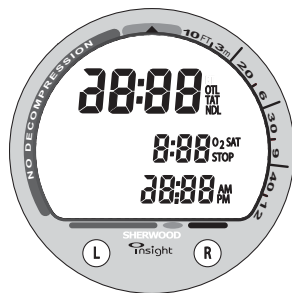

Fig. 8 - Time Displays
The largest display is the **Main Time** display (Fig. 8 - top row of digits). Indicated are theoretical No Decompression Limit (NDL), Oxygen Tolerance Limit (OTL), Elapsed Dive Time (BT), Total Ascent Time (TAT), or Surface Time with the Wave symbol below it, depending on the operating mode that the Insight is in.
A second Time display (Fig. 8 - middle row of digits) indicates Decompression Stop Time required at the stop depth indicated, or Time to Desaturate after a dive, depending on the operating mode that the unit is in.
The third Time display (Fig. 8 - bottom row of digits) indicates Time of Day, or Time to Fly after a dive, depending on the operating mode that the unit is in.